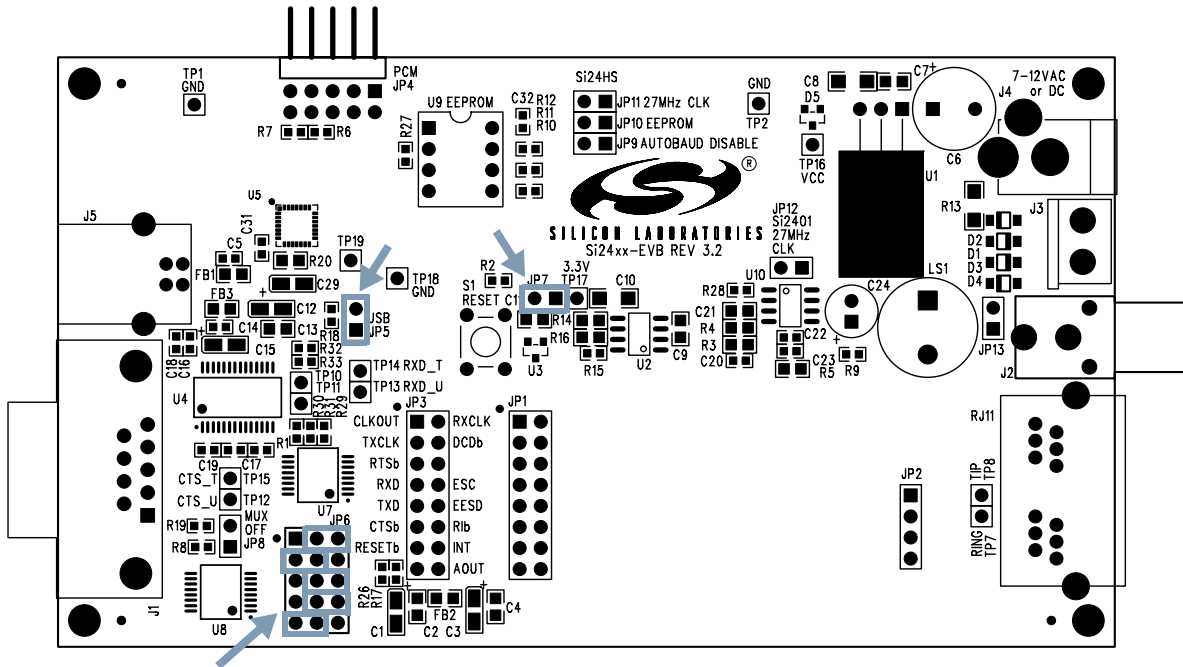

Figure 2. Jumper Settings—USB Interface (Outlined in Gray)
1. Set jumpers according to Figure 2.